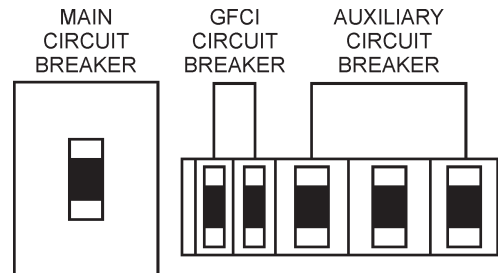

Figure 56. Main, GFCI and Load Circuit Breakers Off
1. Place both the **MAIN, GFCI and LOAD** circuit breakers as shown in Figure 56 to the **OFF** position..